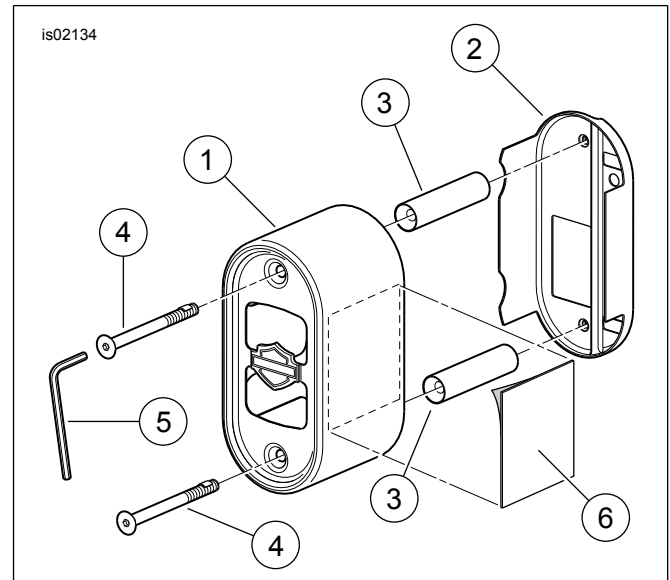

Figure 1. Service Parts: Chrome EFI Coil Cover Kit
See Figure 1 and Table 1.
4. See Figure 1. Position the rear coil cover (2) to the back side of the coil with the electrical connector protruding through the large opening.
6. Obtain the front coil cover (1), two spacers (3) and two chrome flat head screws (4) from the kit.
7. **For Dyna models only:** Also obtain the wear pad (6) from the kit. Peel the liner from the adhesive backing of the wear pad, and position the pad to the side of the front coil cover as shown, on the side closest to the electrical box.